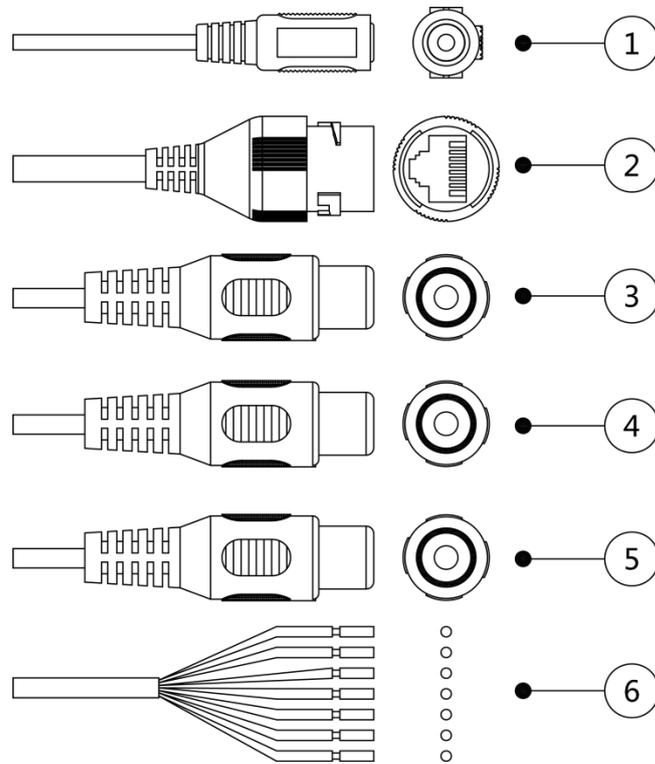

Figure 1-1
- You can refer to the following figure for cable information. See Figure 1-1.